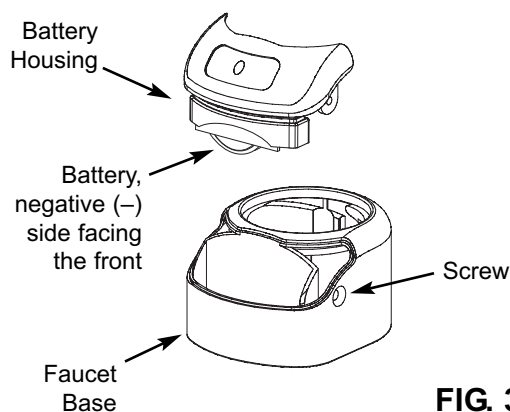

FIG. 30
1. Remove the screw on the right side of the faucet base. See Fig. 30.
2. Press the battery housing upwards from the front faucet base until it releases from the faucet base. See Fig. 30.
5. Re-install the battery housing and firmly tighten the mounting screw. See Fig. 30.